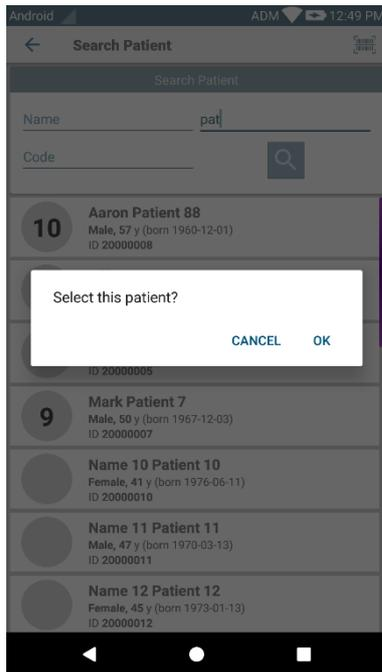

Fig 28
- Touch the box corresponding to a patient to select the patient. User confirmation is required (Fig 28).